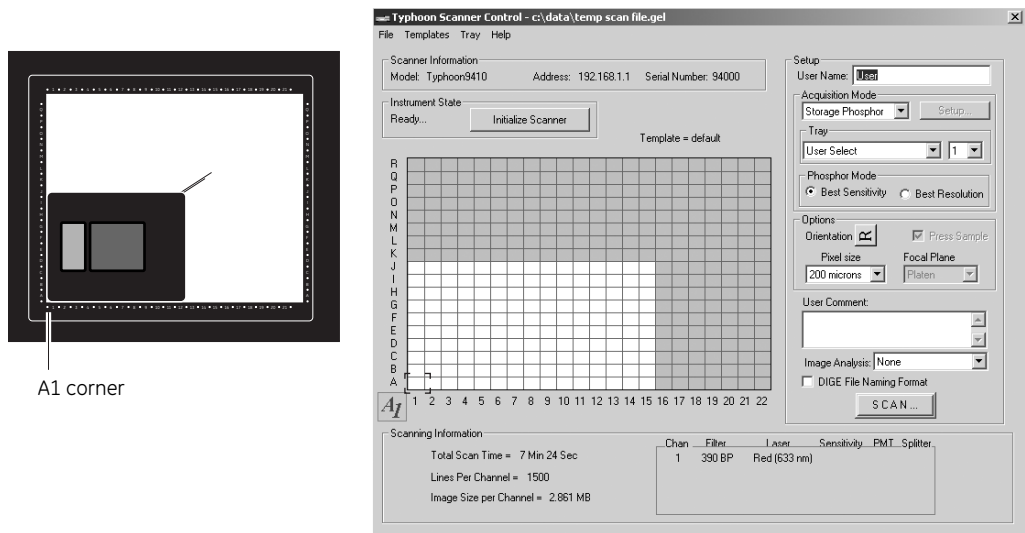

Fig 6-5. Selecting the scan area.
- 3 Drag the pointer to the grid square that corresponds to the highest lettered and numbered grid square of the area you want to scan (fig 6-5).